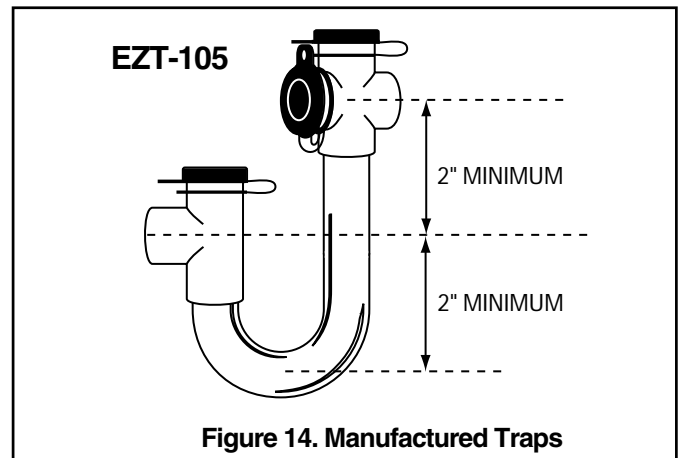

Figure 14. Manufactured Traps
1. The primary drain line must be trapped with a minimum of 2" water seal as shown in Figures 14 & 15. **Do not use preformed 3/4" PVC running traps.**
The use of field fabricated or manufactured traps as shown in Figures 14 & 15 is acceptable. The manufactured trap shown in Figure 14 allows for a float switch option to be added. Refer to the manufacturer's data and instructions for details.
3. It is recommended that a clean-out tee or cross be installed in the primary drain line for future maintenance (See Figure 14 & 15).